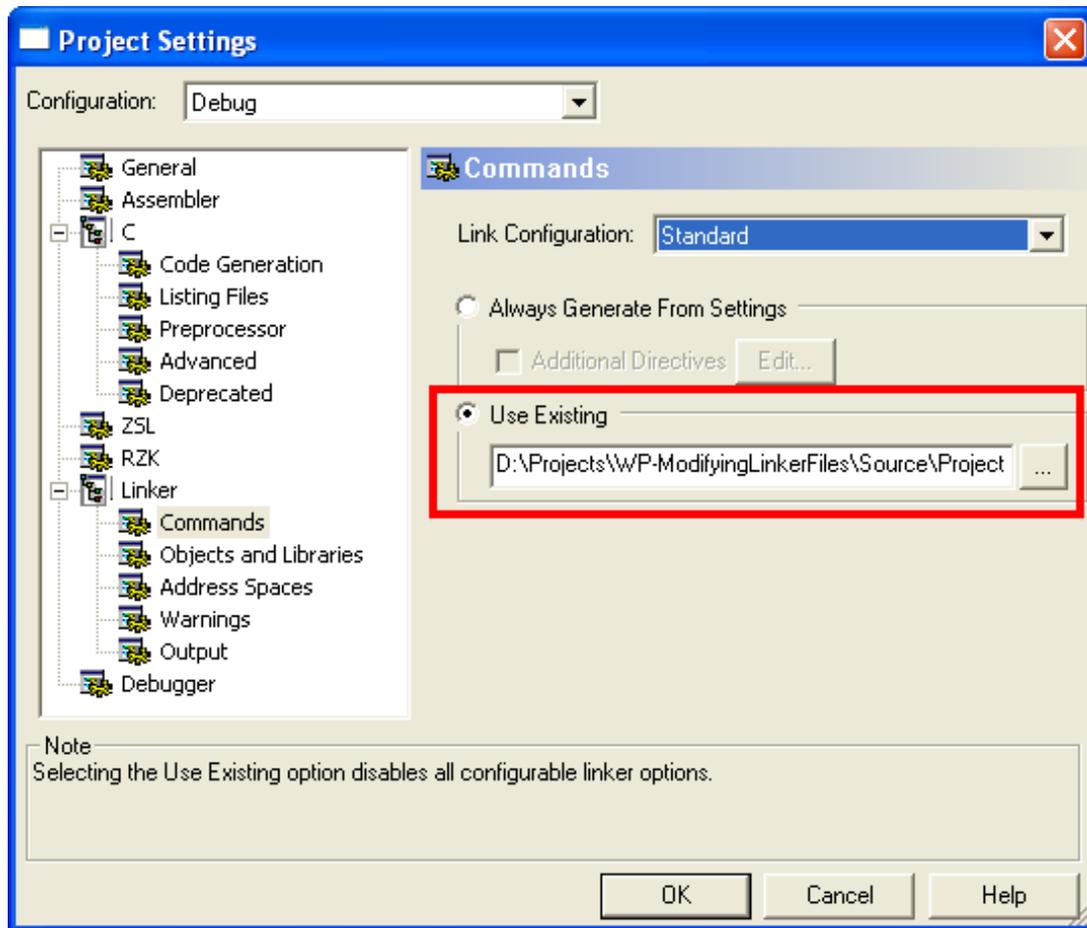

Figure 2. The Linker Command Interface
5. Navigate via **Project Settings** → **Linker** → **Commands**, and select the **Use Existing** radio button, as indicated in Figure 2. Click the “...” button to the right of the **Use Existing** entry field to browse to the location of the linker command file that you created in Step 2.